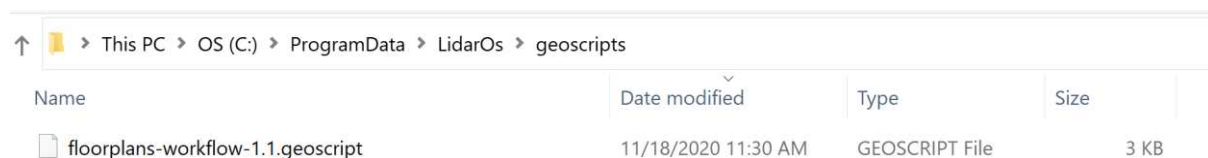

Figure 3 - Location of Geoscripts.
To activate a licence, make sure to install GeoSLAM's License Manager Tool (Figure 3). A GeoSLAM Connect Licence can be activated either online, or for environments without an internet connection – offline (a user requires two PCs, one with an internet connection for offline activation).
1. *Select* -> **Online Activation** tab (Figure 3).